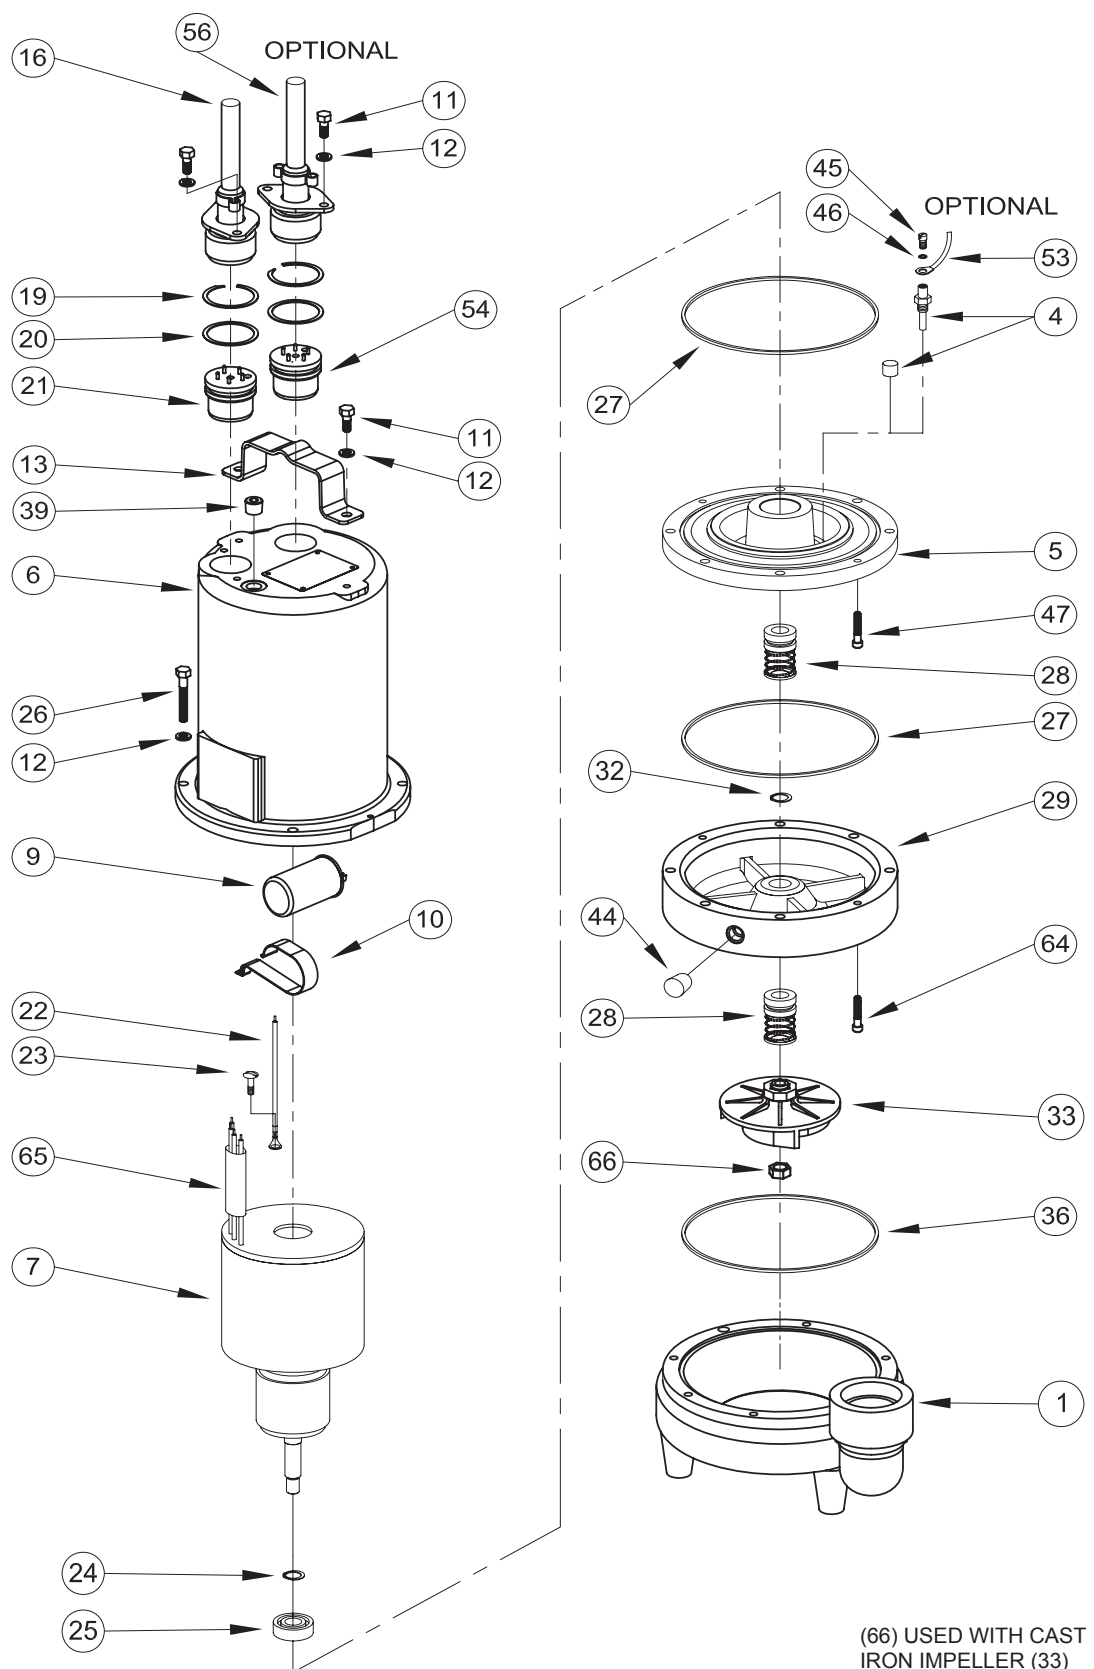

FIGURE 19
**Moisture Sensors-** If pump is equipped with optional moisture sensors, reassemble by applying thread compound to threads on probes (4) and install in upper seal plate (5), see Figures 19 & 20. Connect wire assemblies (53) to probes (4) with washers (46) and machine screws (45).
**Thermal Sensors-** If pump is equipped with optional thermal sensors use terminal connectors (52) to connect wire assemblies (51) to sensor leads. If found to be defective, contact a motor service station or Barnes Pumps Service department.
**Bearings-** When replacing bearing, be careful not to damage the rotor or shaft threads. Clean the shaft thoroughly. Press bearing (25) on the motor shaft, position squarely onto the shaft applying force to the inner race of the bearing only, until bearing seats against the retaining ring (24) (Included with motor).